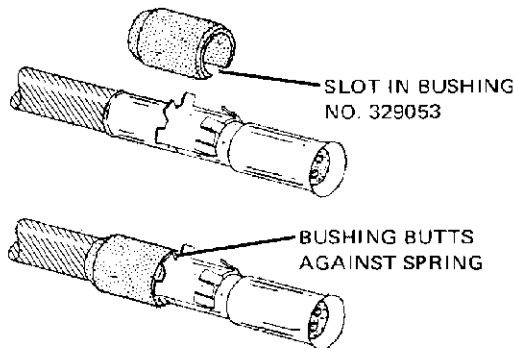

Figure 9
- (a) Alignment bushing should be positioned as shown in Figure 9 before attaching it to contact.
- (d) Bushing must butt against retention spring. See Figure 9.
- (e) Bushing No. 330576 (yellow) has tab protruding from end. Tab fits into open side of retention spring. See Figure 9.